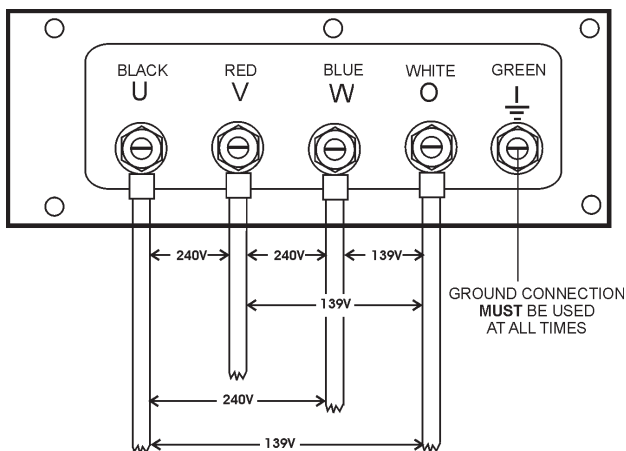

Figure 20. UVWO Terminal Lugs 3Ø-240/139V Connections
2. Connect the load wires to the UVWO terminals as shown in Figure 20.